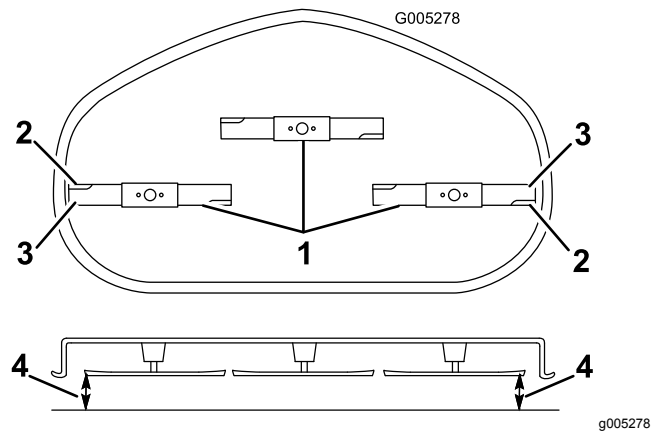

Figure 50
5. Measure between the outside cutting edges and the flat surface (Figure 50). If both measurements are not within 5 mm (3/16 inch), an adjustment is required; continue with this procedure.
4. Carefully rotate the blade(s) so that they are all side to side (Figure 50).